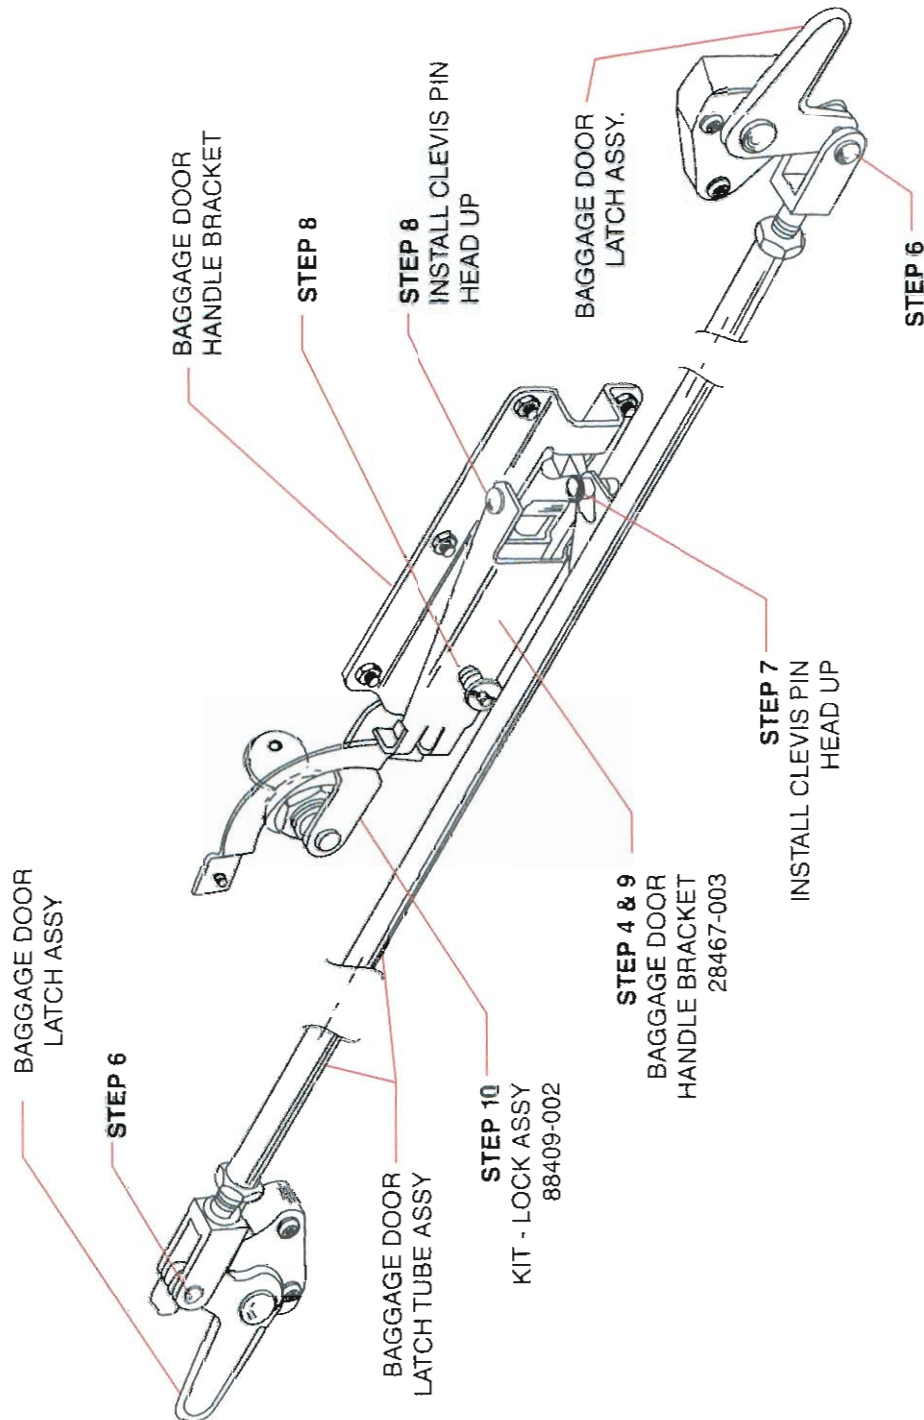

FIGURE 1
Refer to the appropriate Piper Illustrated Parts Catalog, Maintenance Manual, and Figure 1 of this Service Bulletin while performing the operations described below.
5. Remove and discard springs common to BAGGAGE DOOR LATCH TUBE ASSEMBLY, as applicable. Refer to appropriate Illustrated Parts Catalog and Table 1, 2, or 3 for applicability and location. (Springs not shown in Figure 1.)